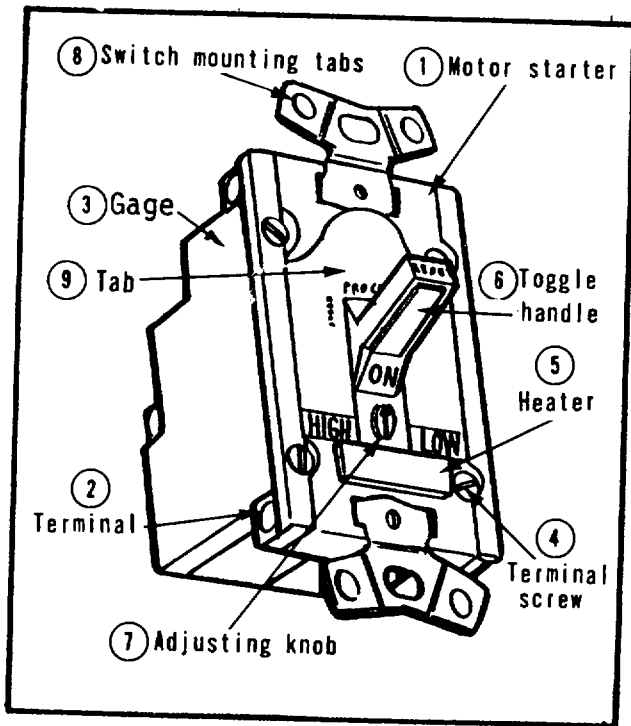

Figure 1. Manual Starter, Toggle Operated.
2. Strip connecting wires to depth indicated by gage (3) on side of switch. (See Figure 1) Insert stripped wires straight into terminals (2) and tighten terminal screws (4).
the adjusting knob (7). (See Figure 1.) Heater can easily be installed by hand, no tools required. Heater rating is clearly marked on heater for easy identification. See Table 1.
Adjustment knob (7) is located directly below the toggle handle (6) on the front of the switch. (See Figure 1.)